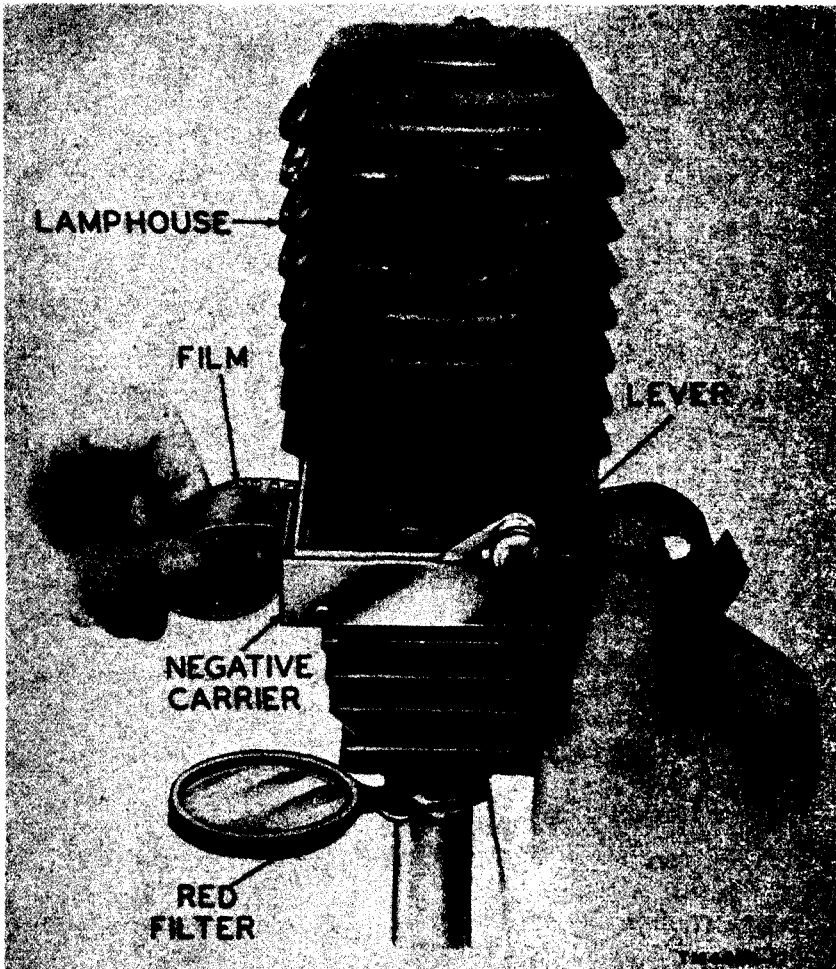

Figure 17. Inserting negative carrier.
b. Loading Negative Carrier (fig. 17).
- (1) Hold the carrier so that the curve in the film holder faces upward.
- (2) Raise the top plate and place the film in the carrier with the emulsion side down so that it projects over the aperture of the bottom plate.
- (3) Close the negative carrier and place it in the printer.